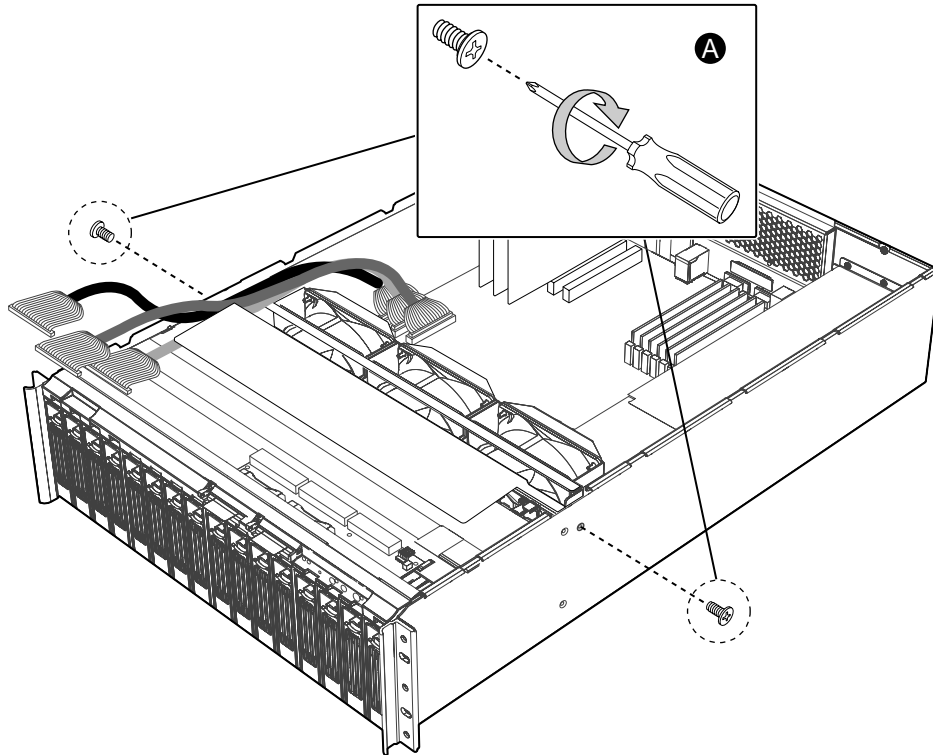

Figure 18. Re-attaching the Fan Assembly to the System
- A. Using a Number 1 size Phillips Screwdriver, screw the Phillips screw on each side of the system into place so that the system fan assembly is mounted in the chassis. See Figure 18.